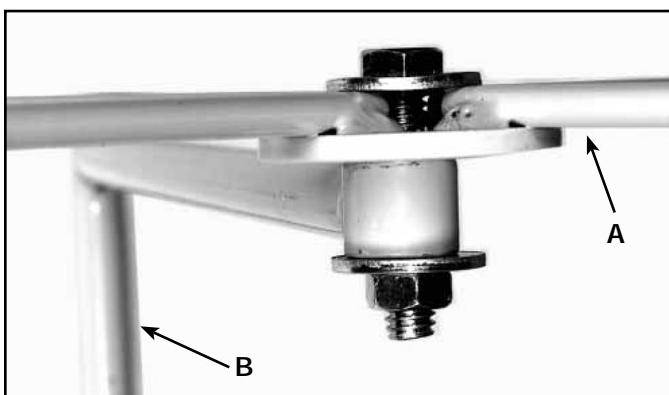

Fig. 12
2. Place 3/8" flat washer on 5/16"x1 1/4" hex head screw. Insert the screw through hole in center of bag hanging assembly (A) Fig. 12 and Fig. 12A and through the hole in the upper bag hanging rod (B) Fig. 12. Then place another large 5/16" flat washer on end of screw followed by a 5/16 hex nut. Assembly shown complete in Fig. 12. Tighten all securely with 12mm wrench.